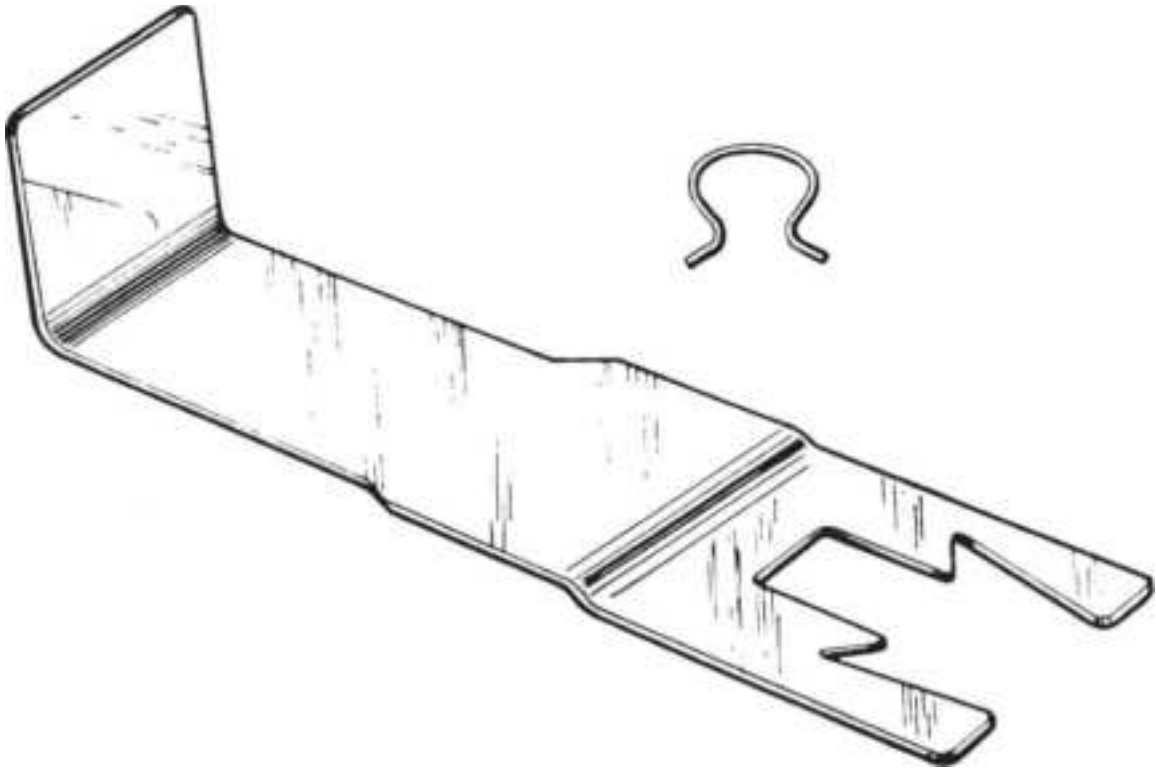

**Figure 2.31** A door handle clip tool helps remove the retainer clip that secures an automobile's door handle to the door. (A-1 Security Manufacturing Corp .)
- Door handle clip removal tool (Fig. 2.31 )